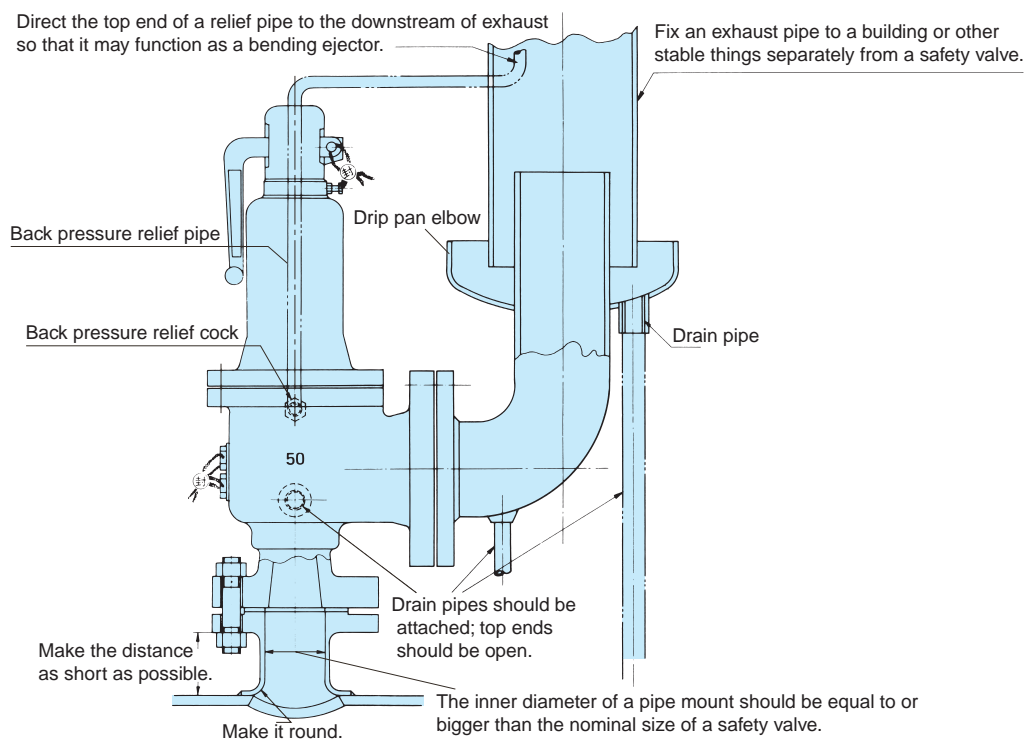

Fig. 1 Piping Instruction
2. The pressure loss in the pipe mount for a safety valve makes the discharge quantity decreased and the function of the safety valve unstable. Therefore a safety valve should be installed vertically as near as possible to a vessel, a header, etc. (See Fig.1.)
An exhaust pipe and an drip pan elbow should be installed so that a safety valve may not be subject to stress caused by the thermal expansion of a boiler or equipment and by the expansion or contraction of a discharge pipe due to the thermal action of blowout of the safety valve. (See Fig.1.)